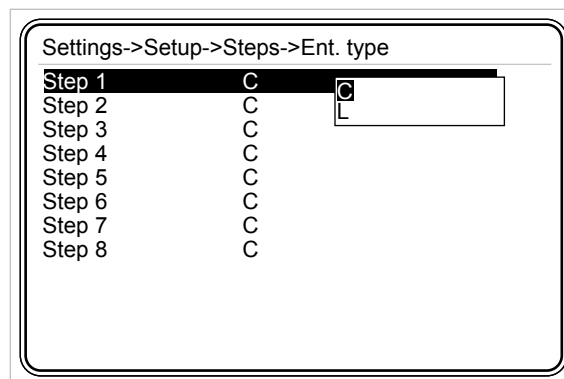

Fig. 3-23 Ent. Type Menu
- Step types are corrected manually. (See Fig. 3-23)